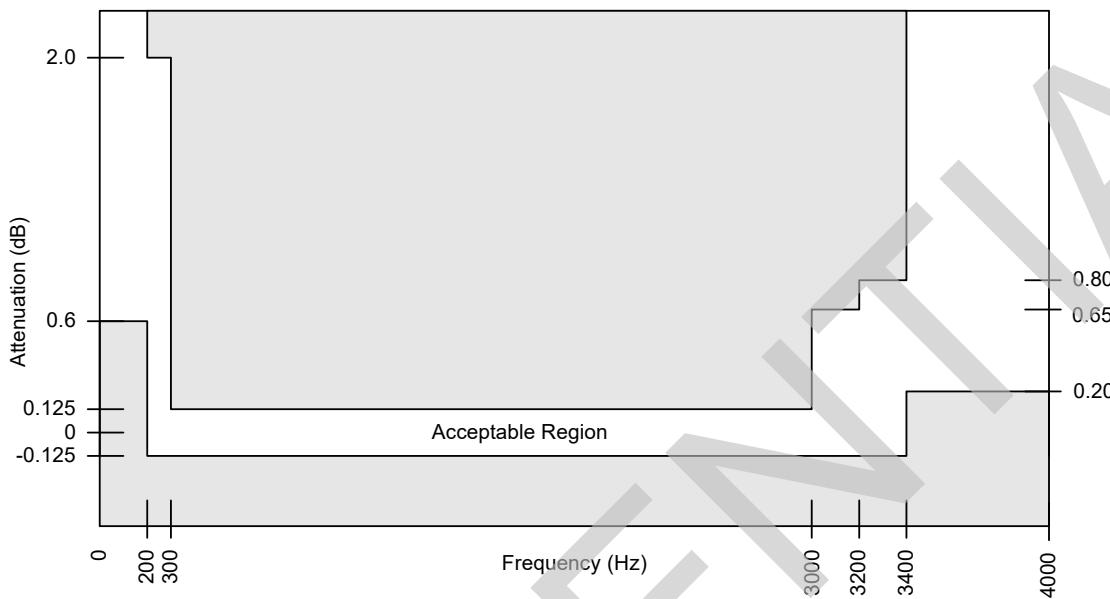
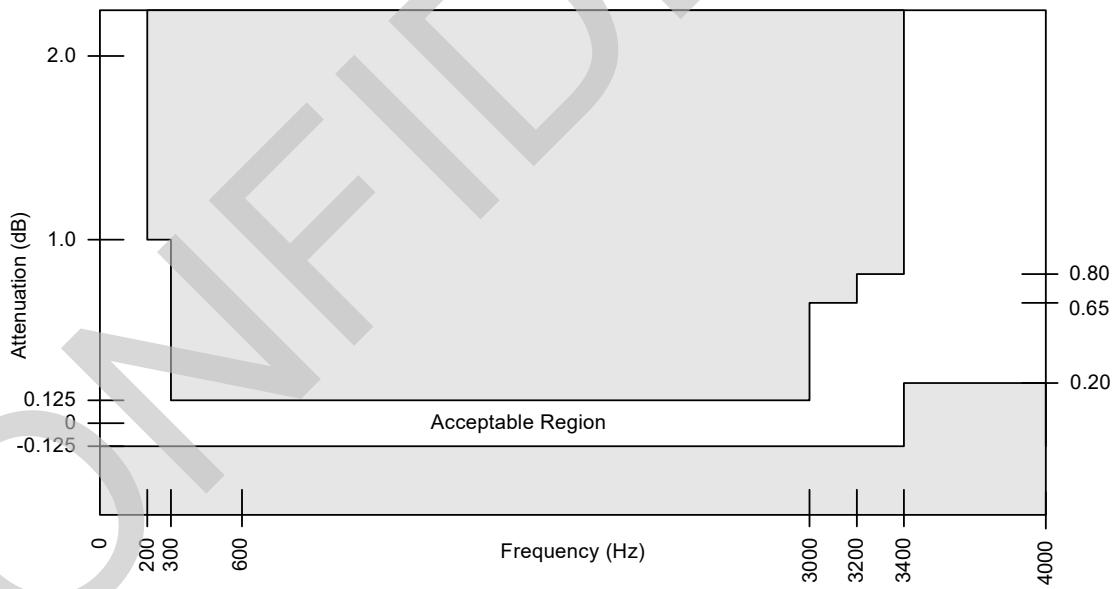

Figure 21 - Transmit (A to D) Path Attenuation vs. Frequency
Figure 22 - Receive (D to A) Path Attenuation vs. Frequency
3. See Figure 21 and Figure 22 on page 38.
The signal attenuation in either path is nominally independent of the frequency. The deviations from nominal attenuation will stay within the limits shown in Figure 21 and Figure 22. The reference frequency is 1014 Hz and the signal level is -10 dBm0.